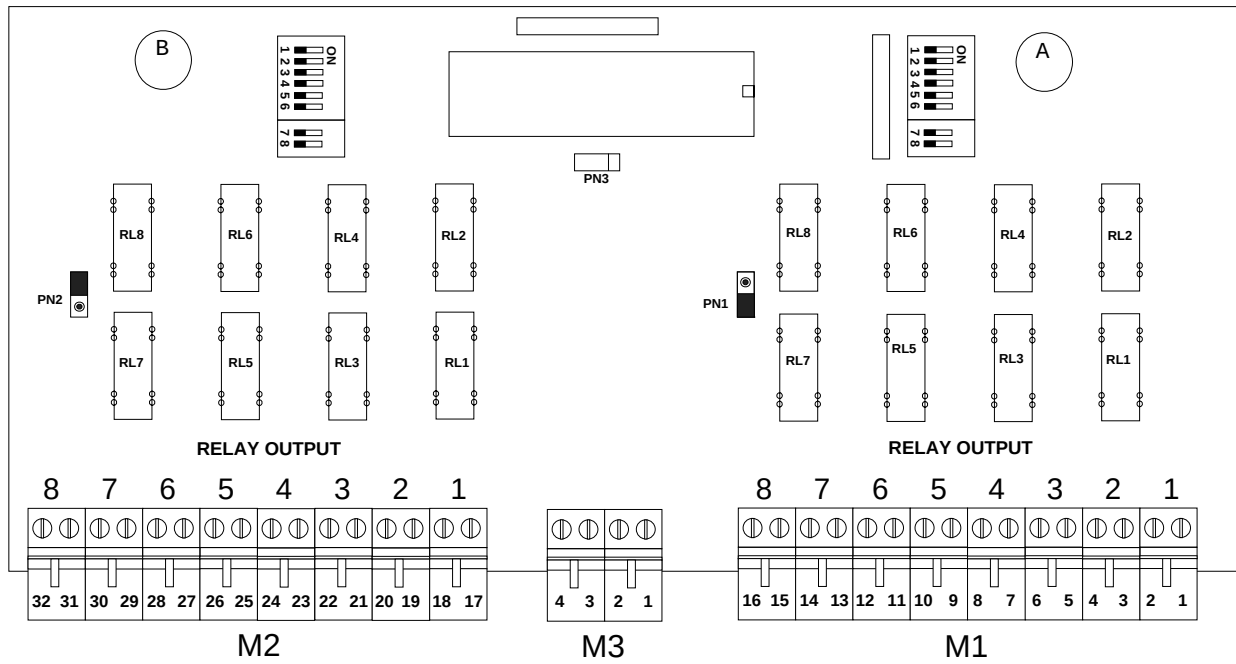

Fig. 9: Double Relay Board (PUCP2006)
Relay **8** = **NC** (for further **Functions** [see fig. 9, **PN1**])
Relay **8** = **NO** (for **Fault** function [see fig. 9, **PN2**])
- 1 = [+RELE] Positive Supply Input from **UCP (or VALIDVRS LITE see fig.9-A)**
- 2 = [- RELE] Negative Supply Input from **UCP (or VALIDVRS LITE see fig.9-A).**